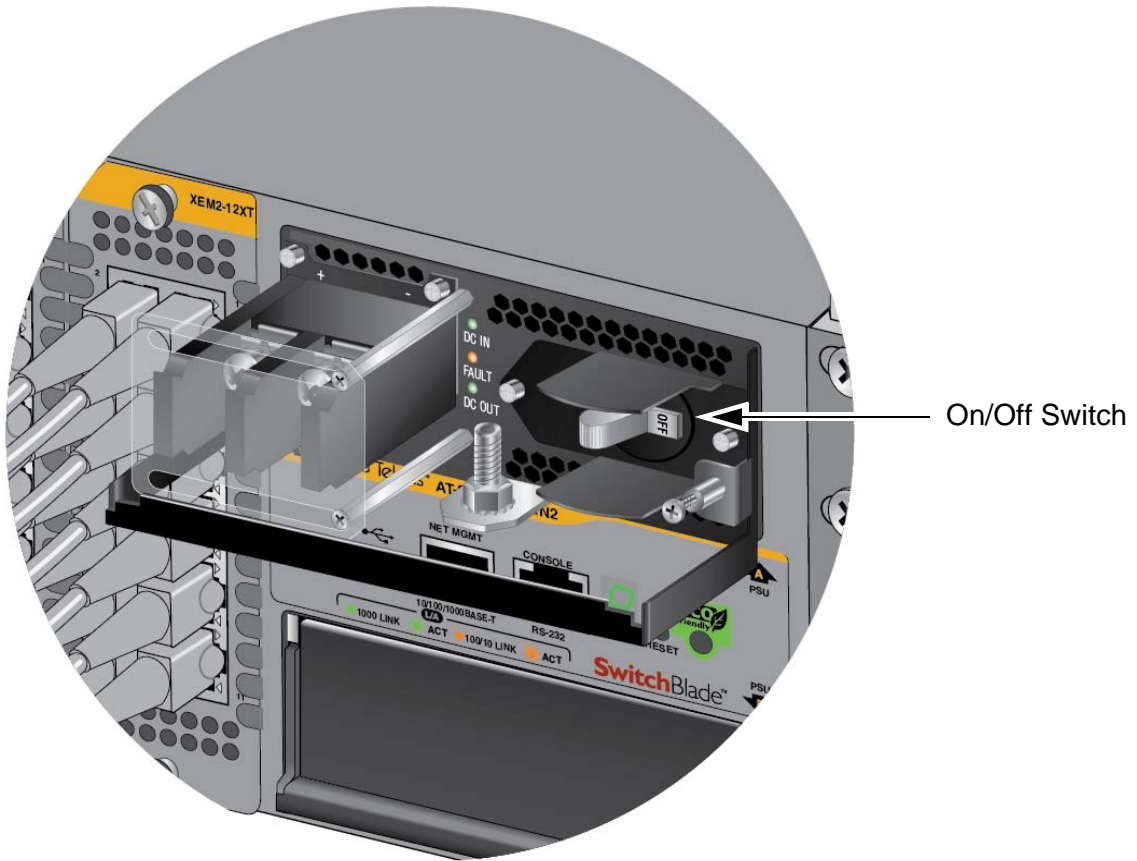

Figure 60. On/Off Switch on the SBxPWRSYS1-80 DC Power Supply
3. Verify that the On/Off switch on SBxPWRSYS1-80 DC Power Supply is in the Off position. Refer to Figure 60.
2. Verify that the On/Off switch on SBxPWRSYS1-80 DC Power Supply is in the Off position. Refer to Figure 60 on page 97.
3. Verify that the On/Off switch on SBxPWRSYS1-80 Power Supply is in the Off position. Refer to Figure 60 on page 97.
14. Turn the On/Off switch(es) on the SBxPWRSYS1-80 DC Power Supply(ies) to the On position. See Figure 60 on page 97.